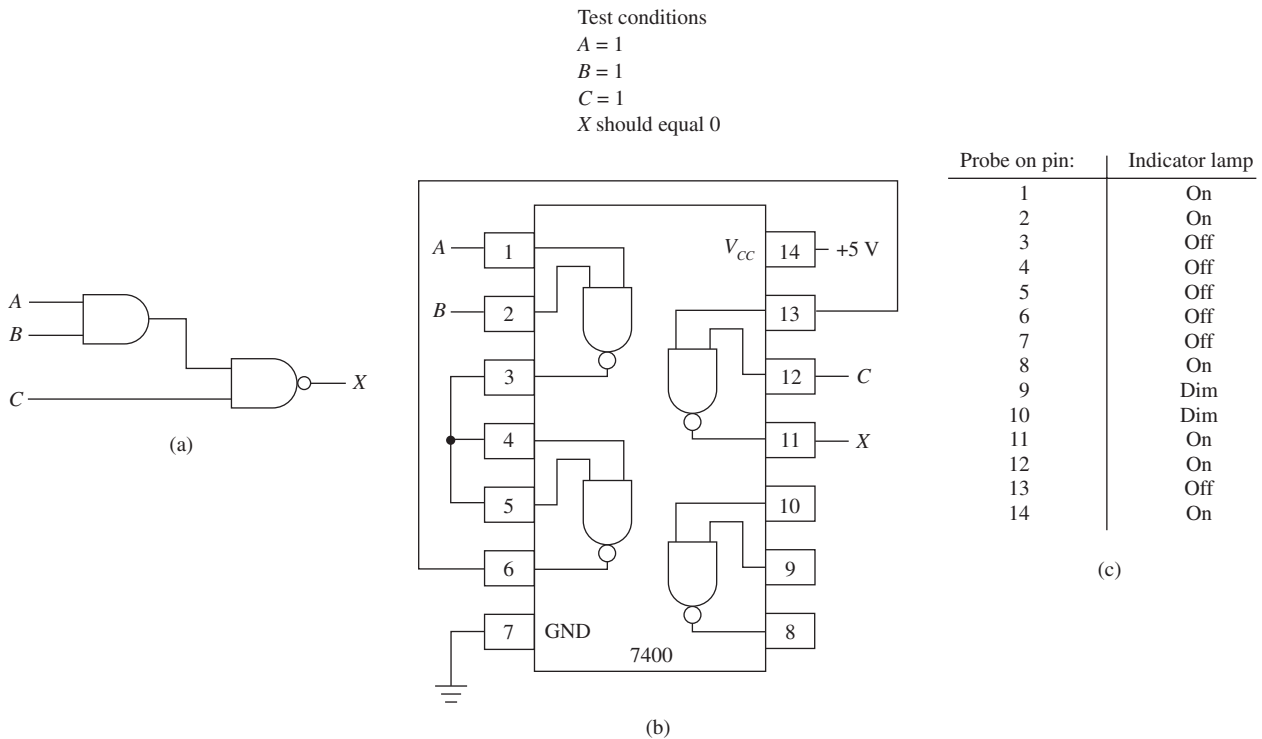

Figure P5-42
- T** 5-42. The logic circuit of Figure P5-42(a) is implemented by making connections to the 7400 as shown in Figure P5-42(b). The circuit is not working properly. The problem is in the IC connections or in the IC itself. The data table in Figure P5-42(c) is completed by using a logic probe at each pin. Identify the problem.